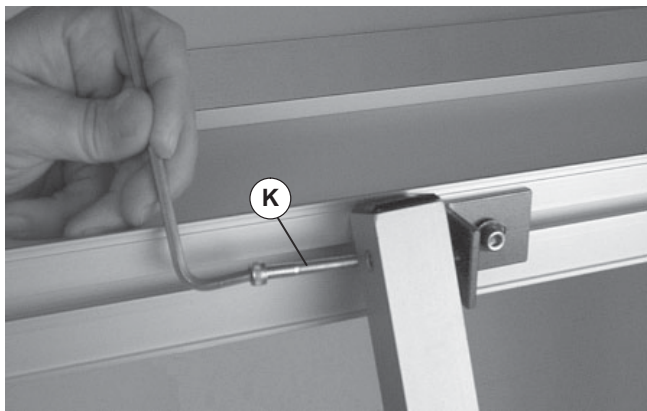
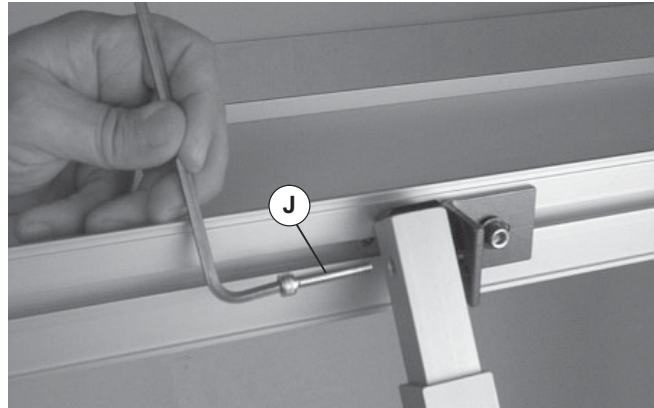

Figure 18
Figure 19
4. Loosely attach adjustable bar (Figure 18, item B) or (Figure 19, item B).
- Attach outer tube end with screw (Figure 18, item K)
- Attach inner channel end with screw (Figure 19, item J)